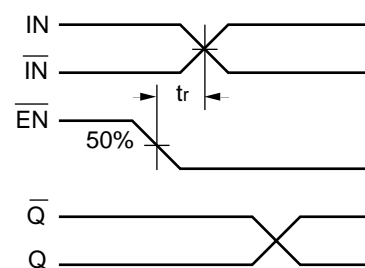

Figure 3. Release Time
- The release time is the minimum time that $\overline{\text{EN}}$ must be de-asserted prior to the next IN/ $\overline{\text{IN}}$ transition to ensure an output response that meets the specified IN to Q propagation delay and output transition times (see Figure 3).